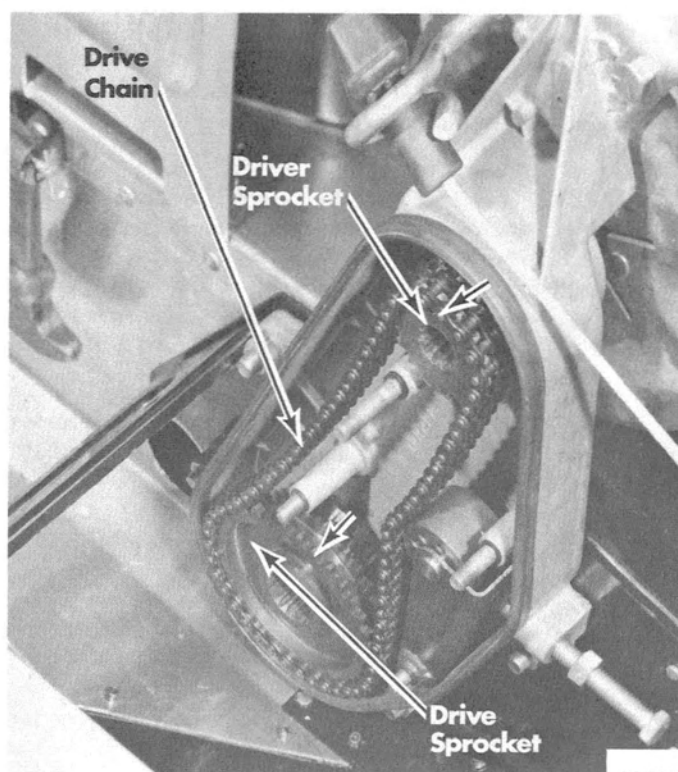
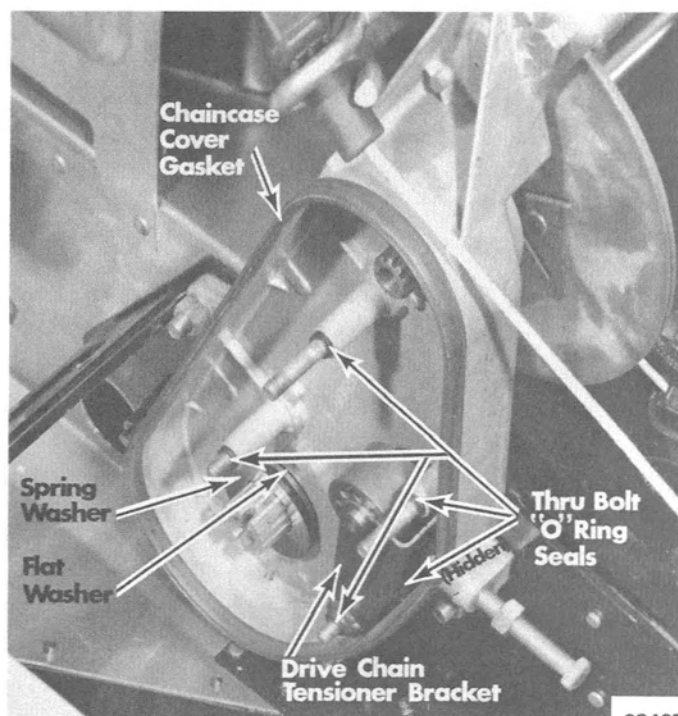

Figure 6. Removing Drive Chain and Driver Sprocket
Figure 7. Driven Shaft and Front Drive Shaft
9. Remove driver (top) sprocket and drive chain from driven shaft. Remove drive chain from around drive (bottom) sprocket. (Figure 6)
10. Remove drive (bottom) sprocket (Figure 6) from front drive shaft.
11. Carefully inspect chaincase cover gasket, bottom chaincase oil seal and 5 thru bolt "O" ring seals (one on each side of drive chain tensioner bracket and one on remaining 3 chaincase cover bolts) for signs of leakage and replace as necessary. (Figure 7)
13. Install drive sprocket (Figure 6), tab washer and sprocket retaining bolt on front drive shaft.
IMPORTANT: Drive sprocket **MUST** be installed with shoulder toward chaincase, as shown in Figure 6. If washers between drive sprocket and bottom chaincase bearing (Figure 7) were removed, install flat washer against bearing and spring washer (concave [hollowed] side toward sprocket) between flat washer and sprocket.
14. Place drive chain around drive sprocket and driver sprocket and install driver sprocket and drive chain on driven shaft. (Figure 6)
18. Apply a thin coat of Multipurpose Lubricant (C-92-63250) to chaincase cover gasket and "O" ring seals on chaincase thru bolts. (Figure 7)